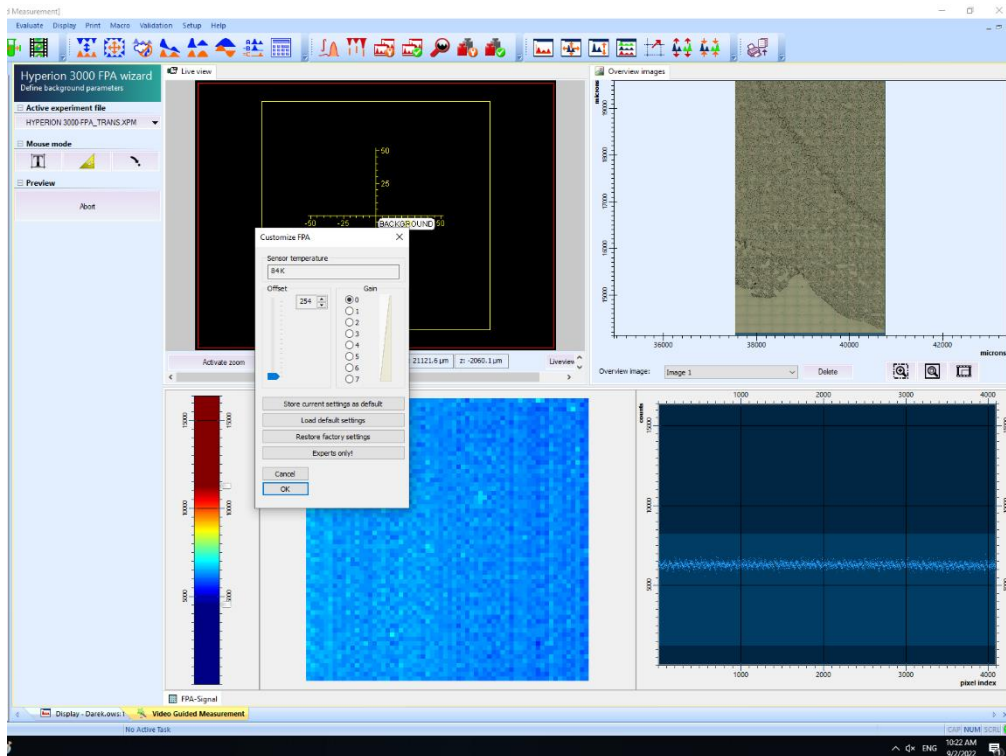

Fig. 15. The „Live spectrum” option – parameters of FPA
3. Selection of FPA detector parameters - after right-clicking on the lower, right image in the "Live spectrum" mode, select "Customize FPA". Set "Gain" to zero, select "Offset", and after entering "Expert only" the exposure time (Exp. Time). Pixels whose signal is collected from the background should form a straight line located in the upper part of the allowed area (Fig. 15).